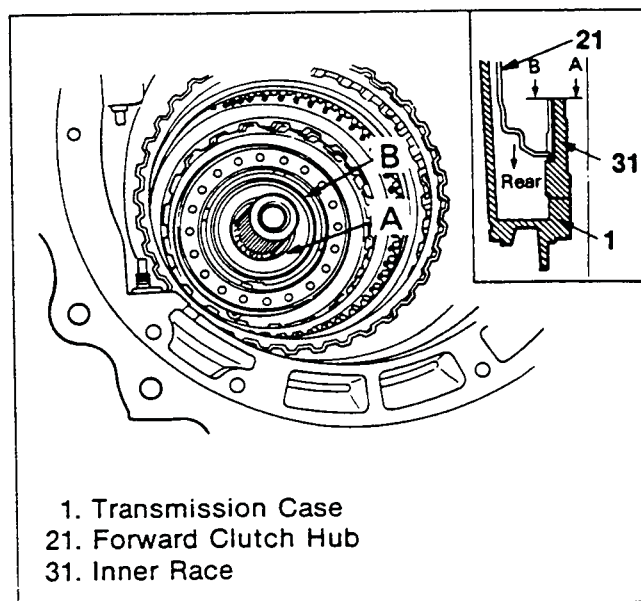

Figure 255. Forward Clutch Assembly Inspection
Important (Figure 255)
2. Push the forward clutch assembly in deeply so the inner race front (A) shows 0.5 – 1.0 mm (0.02 – 0.04 in) from the end of the clutch assembly inner drum (B) (figure 255).